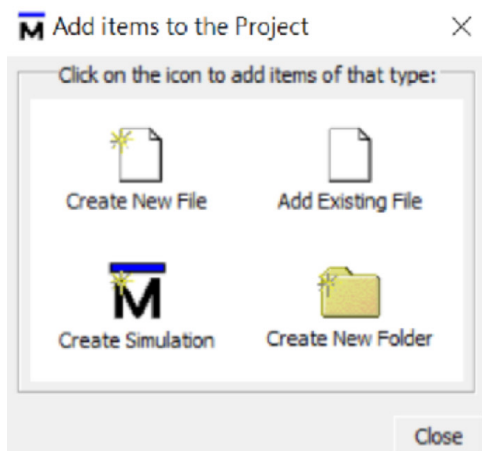

Fig. II.2. Add Existing File
4. Once the project is named, a window will pop up prompting to select what files need to be added. Select 'Add Existing File' as shown in Figure II.2. And then click 'Browse' for